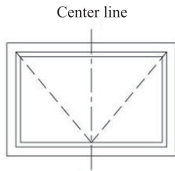

Figure 1
① Wiring diagram
② Installation steps
- Determine the center line of the window open door, as shown in Figure 1.